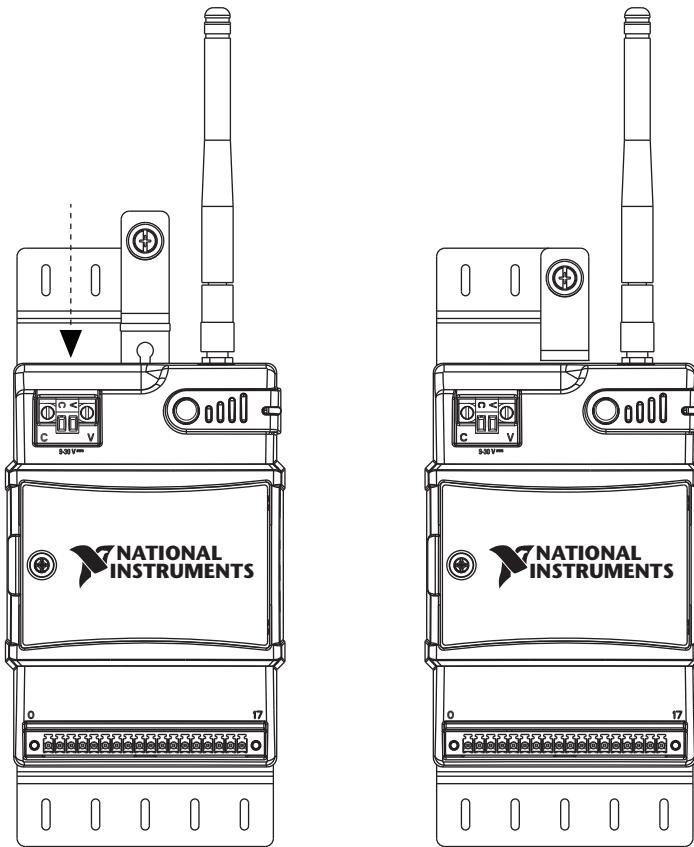

Figure 8. Slide Retention Clip Down and Tighten Panel Mount Knob
4. Slide the retention clip down and tighten the panel mount knob to secure the NI WSN-3230/3231 device, as shown in Figure 8.